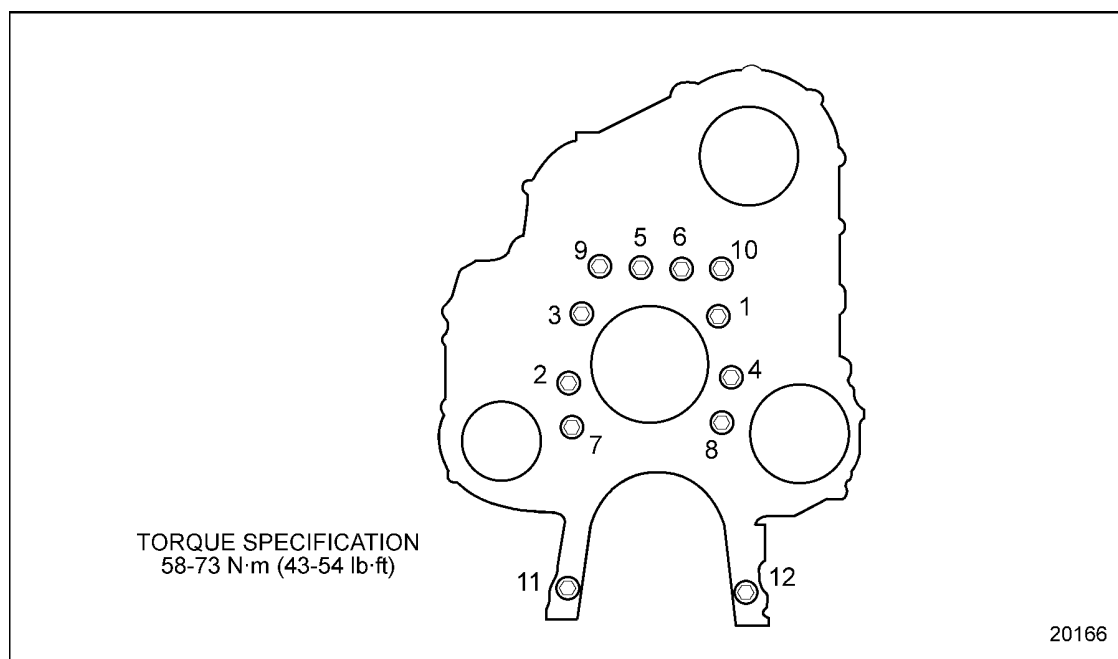

Figure 1-187 Gear Case Bolt Torque Sequence
6. See Figure 1-187, and torque the gear case-to-cylinder block bolts to 58-73 N·m (43-54 lb·ft) using the sequence shown.